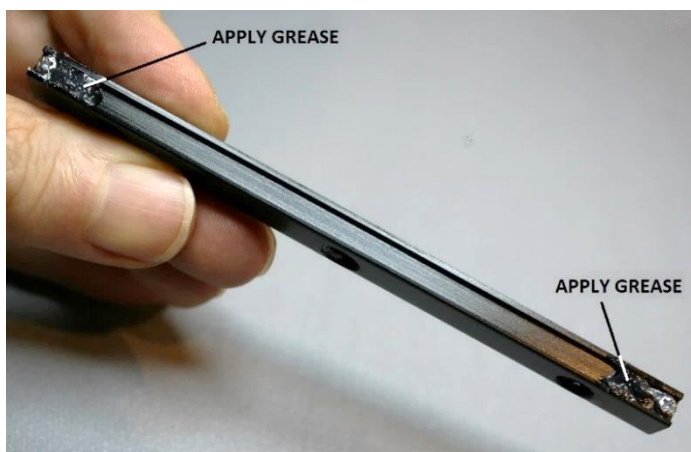

Figure 161 – Apply grease to the ends of the guide
After any oil or grease has been thoroughly removed from the various components, apply heavy grease, such as Dow Corning Molykote 111 (item 5 of Appendix 2), to the inside corners of both ends of the groove in the side of the guide (see Figure 161).